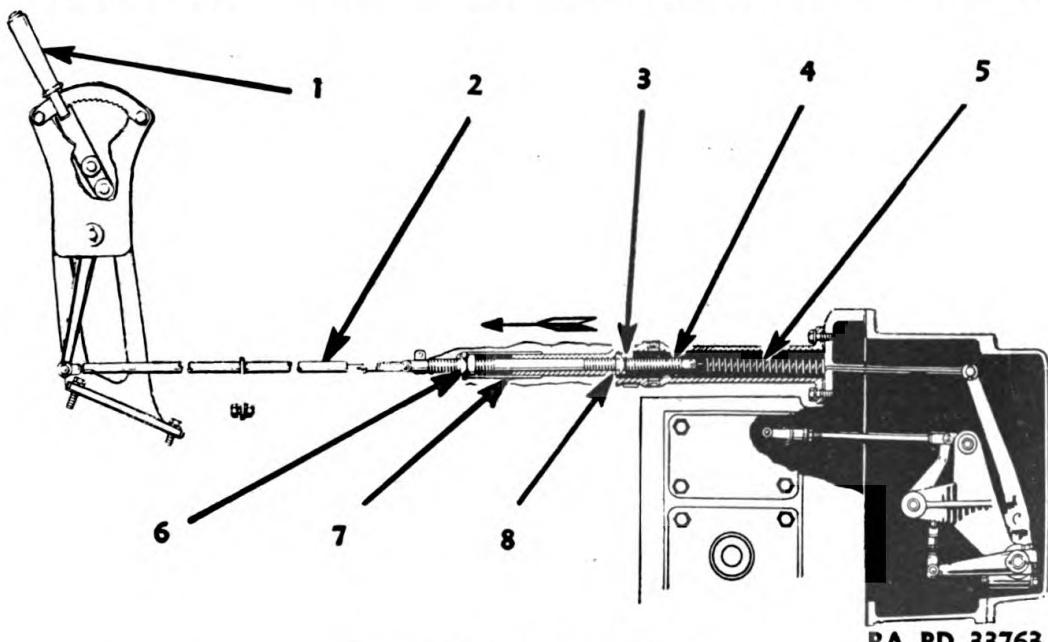

FIGURE 65.—Governor linkage.
52. General.—*a.* Governing of the engine is maintained by the centrifugal force of the governor weights as opposed to the tension force of the governor spring. Any difference in force values is transmitted through various linkage (fig. 65) to move the slide bar and increase or decrease the amount of fuel delivered to the combustion chambers. Moving the hand throttle changes the tension on the governor spring; the greater the tension, the higher the speed.
b. When hand throttle (1) is moved toward the open position as shown, connecting rod (2) and throttle control rod (4) are moved in
b. Stop the engine and remove covers (2), (5), and (6), (fig. 65). Move fuel pump control lever to the "run" position and hand throttle to the high idle position. Lengthen or shorten the adjustable rod (found after removing cover (6), (fig. 65) so the flyballs will have $\frac{1}{16}$ inch free movement. Shorten the rod to increase the free movement, lengthen the rod to decrease the free movement.